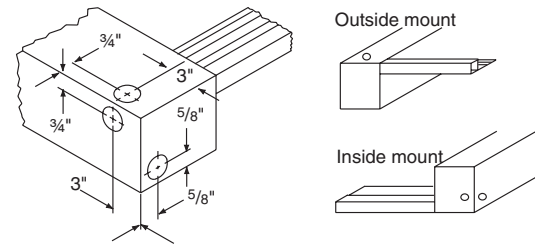

Figure 5
- ① **For motorized units:** You may need to locate and drill a hole for the conduit connector (Conduit connector is not supplied) (see Fig. 5).